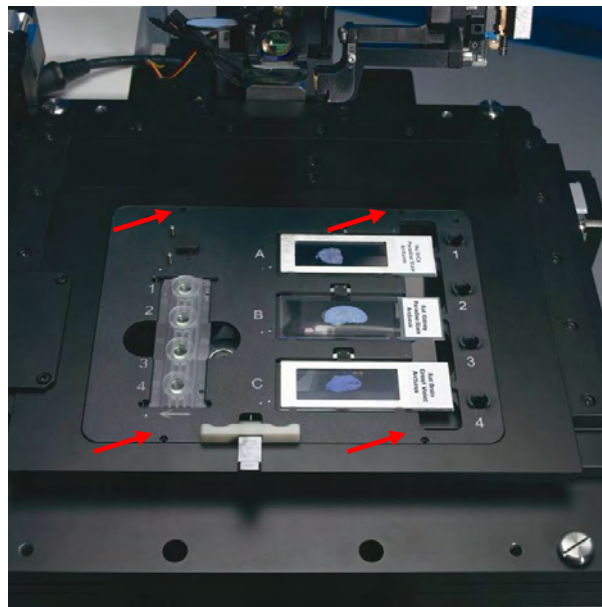

Figure 1. Standard Stage Insert set screws
- b. Using a 1.5mm hex driver, loosen the four screws located around the edges of the existing stage insert (Figure 1). Leave the loosened screws within the insert.